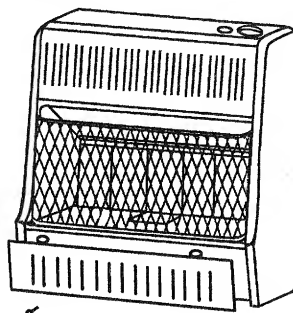

Figure 7 - Removing Front Panel of Heater
2. Pull bottom of front panel forward, then down (see Figure 7).